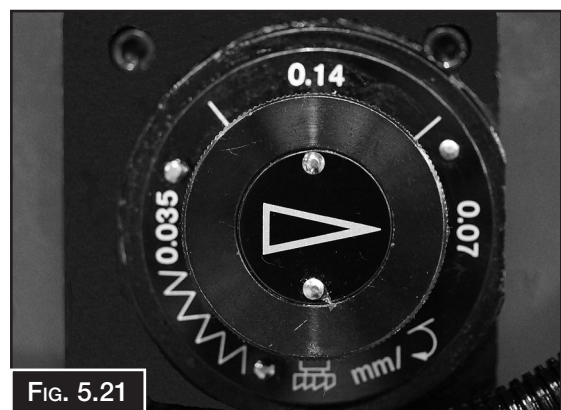

FIG. 5.21
2. Once the feed is engaged then select the down feed rate from the feed dial. (Fig. 5.21)